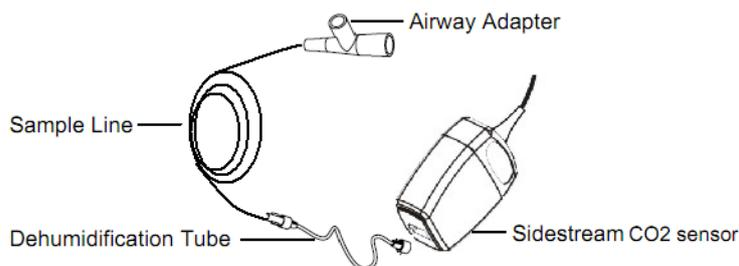

Figure 3-5: Connection C300 Sidestream CO₂ sensor
- Please connect sample line with Airway Adapter with Luer. **Figure 3-5**